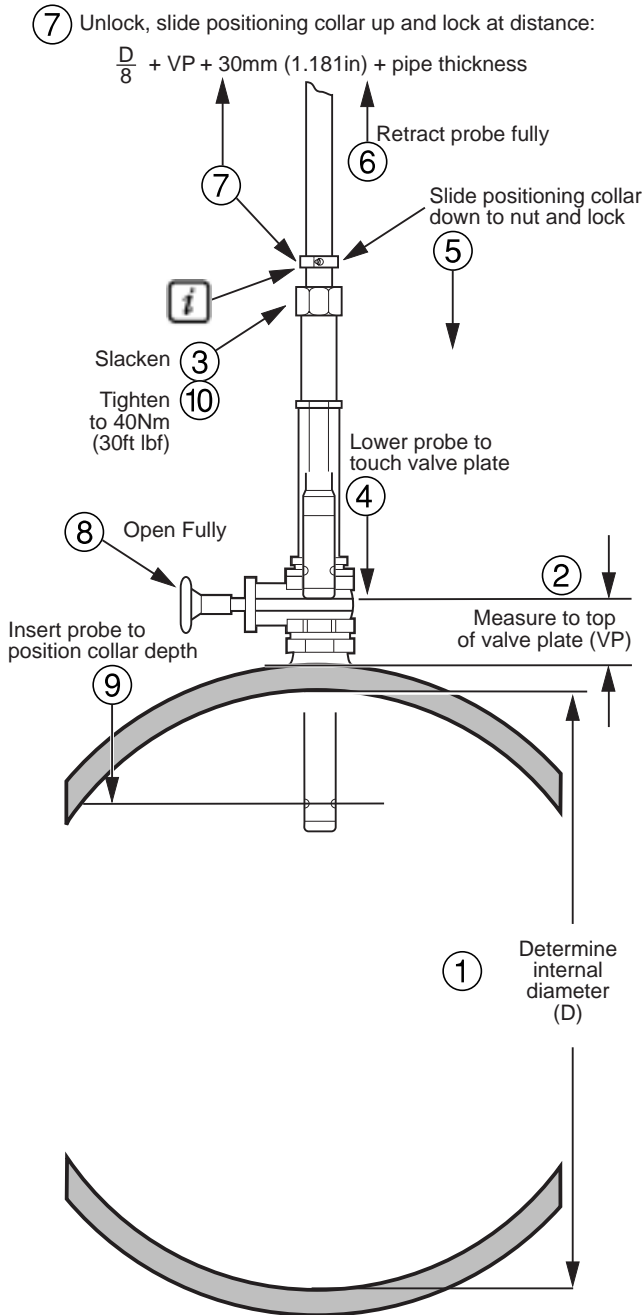

Fig. 3.14 Setting the Insertion Depth – Mean Axial Velocity Method
3.6.3 Mean Axial Velocity Method – Fig. 3.14